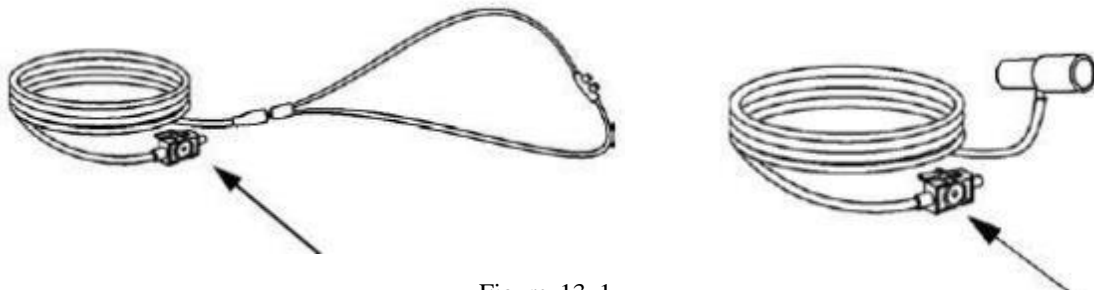

Figure 13-1
- (1) Attach the C5 Side-stream CO₂ Sensor to the monitor, and just plug the CO₂ Sensor into its receptacle and clicks into place.
- (2) For monitoring CO₂, select the side-stream sampling cannula kit that is appropriate for the patient size and application. Verify that the cannula kit is clean, dry and undamaged. Replace the cannula kit if necessary, shown as Figure 13-1.